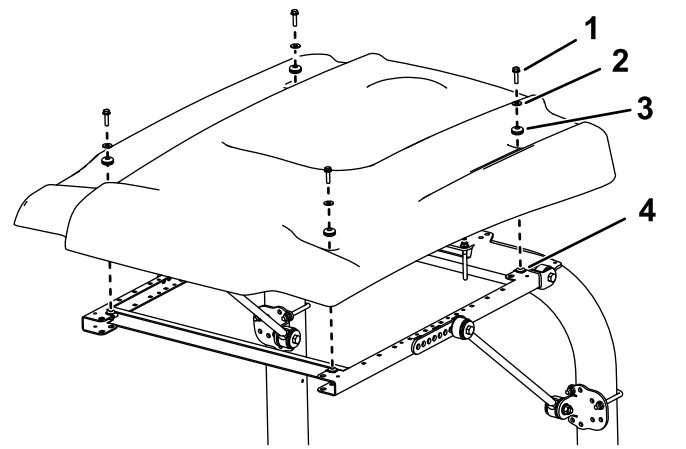

Figure 46
- While aligning the mounting holes, position the sunshade onto the frame as shown in Figure 46.
- Loosely mount each corner of the sunshade to the frame with a flange-head bolt (5/16 x 1-1/4 inches), a small washer, and a grommet (Figure 46).